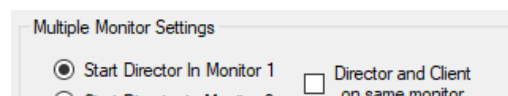

Figure 10-1
- iii. Another fix that should be more permanent if the previous fixes are not working is to go to *Tools > Edit Display Properties* in Display Director, and in the dialog box, you will see the “Multiple Monitor Settings,” as seen in Figure 10-1. Select the Monitor that is not currently selected, ensure that the “Director and Client on same monitor” is not selected, and then save your changes. You will need to close and reopen Display Director and it should open as expected.